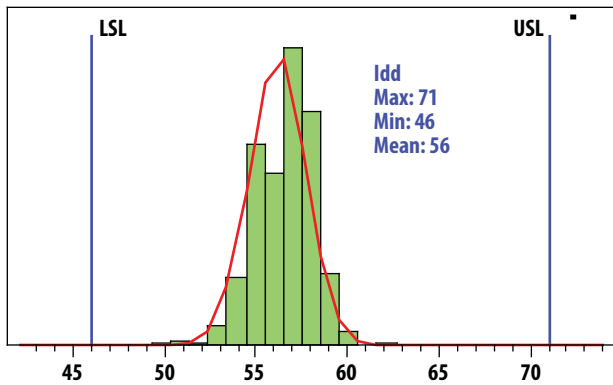

Figure 1. Idd @ 2.5GHz, 5V, 56mA Mean = 56
RF performance at TA = 25°C, Vdd = 5V, Rbias = 3.6 kOhm, 2.5 GHz, measured on demo board in Figure 1 with component listed in Table 1 for 2.5 GHz matching.
1. Measurements at 2.5 GHz obtained using demo board described in Figure 1.